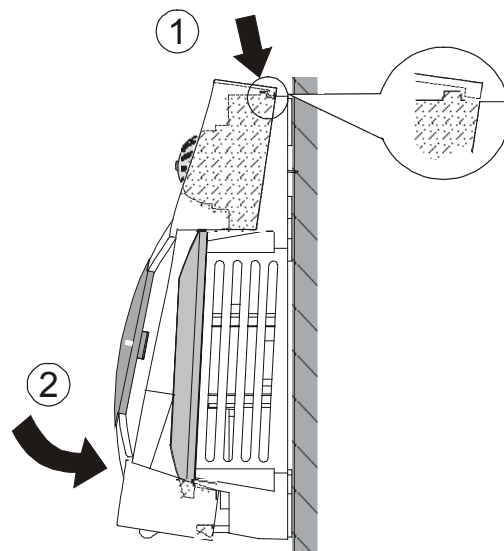

Fig. 5 Cover assembly
4. Remount the cover as shown in Fig. 5 and make sure that the tab on the underside engages.